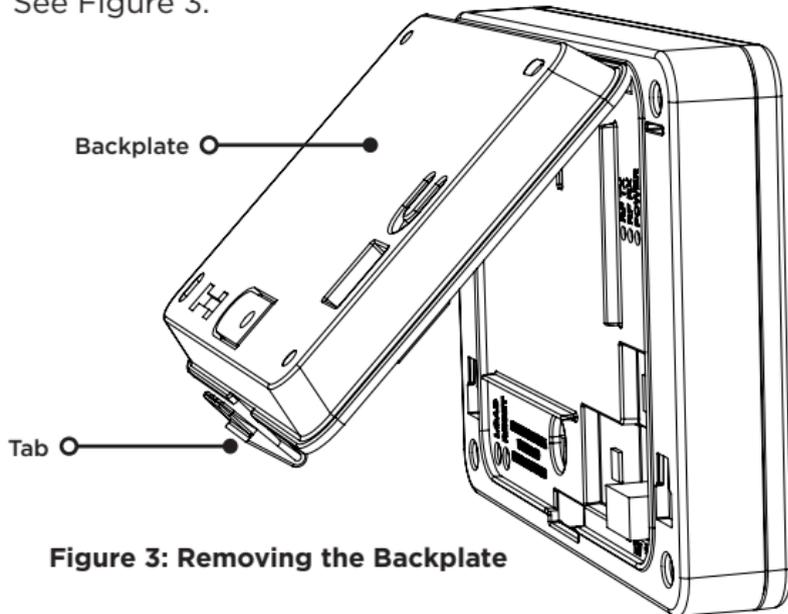

Figure 3: Removing the Backplate
1. Press the tab and remove the backplate from the XTLtouchINT. See Figure 3.